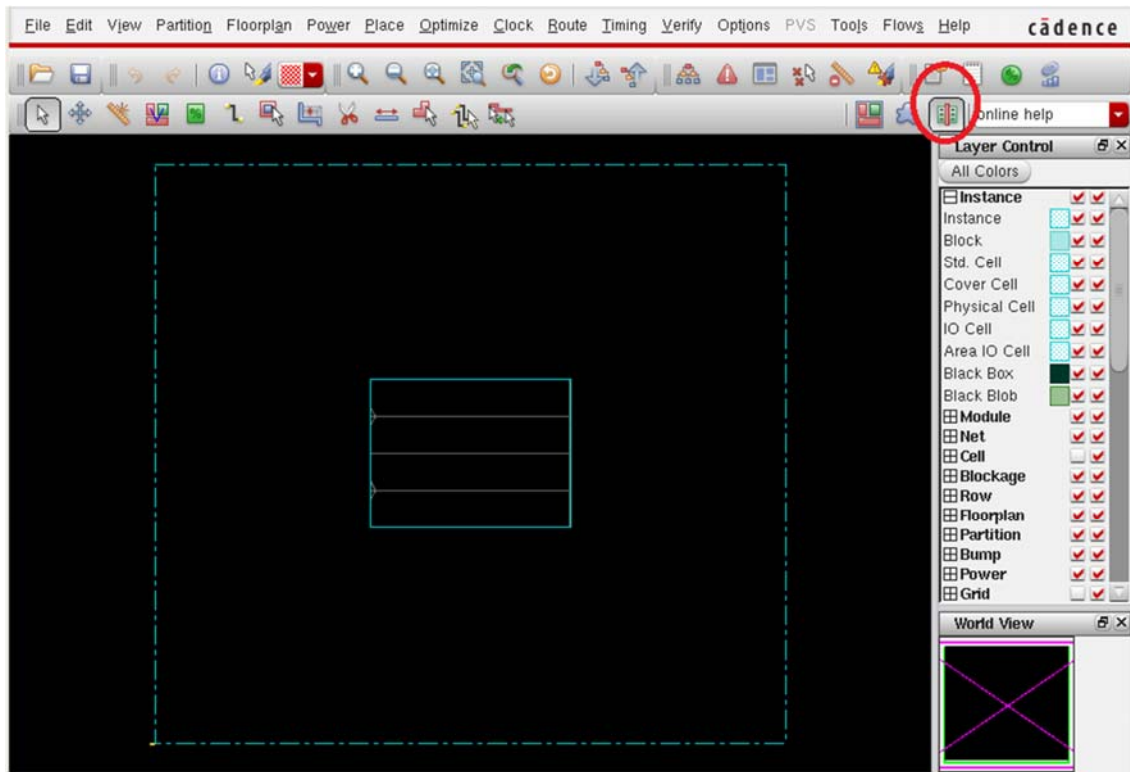

Figure Lab8-3 Ready for Floorplanning
4. Click on the icon (red cycle) as shown in Figure Lab8-3 and hit **f** to see the full view.